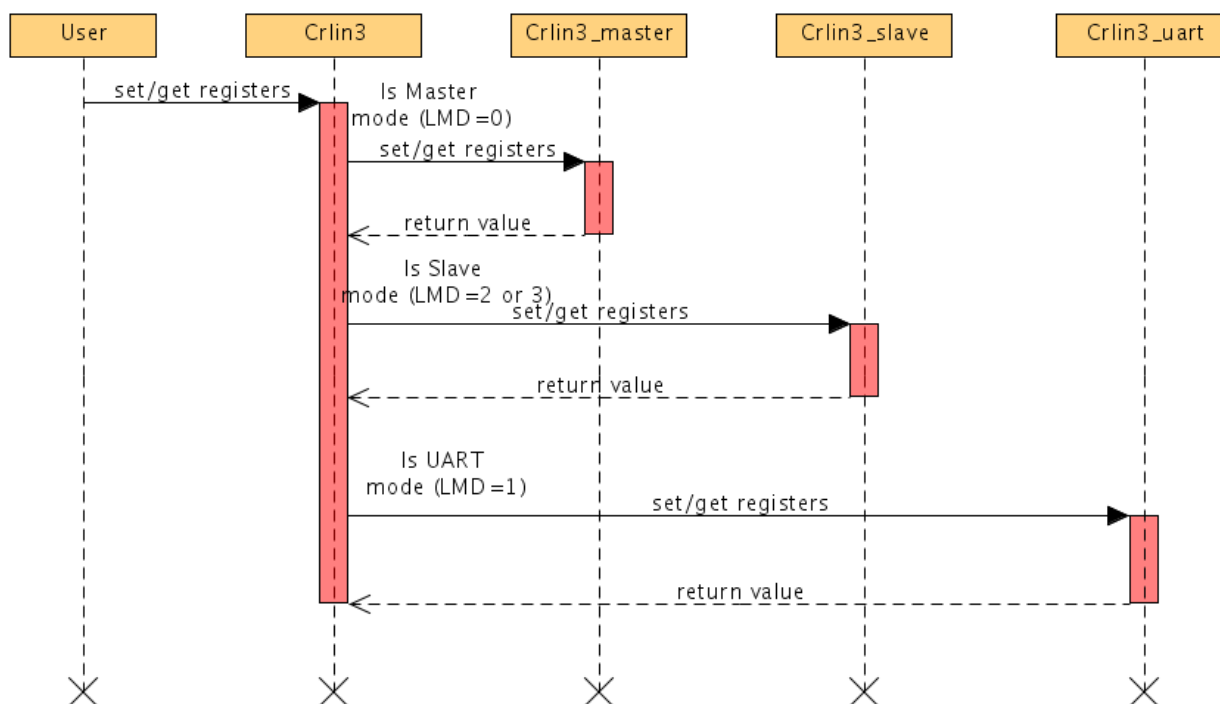

Figure 7.1: Sequence diagram for register update
- (1) RLIN3 model is described via Crlin3 class, Crlin3_master class, Crlin3_slave, Crlin3_common and Crlin3_uart class. Crlin3 class uses Crlin3_master class, Crlin3_slave class and Crlin3_uart class as instances. Crlin3_master class, Crlin3_slave class and Crlin3_uart class contain registers, call back functions and APIs to access registers for Master, Slave and UART modes.
- (2) The relationship of Crlin3 class, Crlin3_master class, Crlin3_slave class and Crlin3_uart class are described more details in figure 7.1.